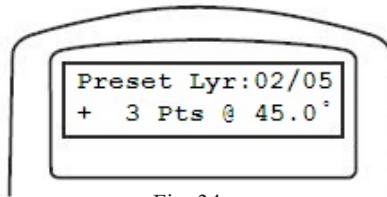

Fig. 34
2. The hand control will ask if you want to edit the preset layers. Press **1** to continue to the editor. The hand control will display the existing preset layers. The top line will show the number of the layers you are in, and how many total layers are being used. The second line shows the number of images to be taken in one full 360° rotation of the mount at the altitude angle displayed. In the example in **Fig. 34**, you are viewing layer 2 out of 5 total layers and the mount will take 3 images at an altitude angle of 45° above the home position. You can use the scroll keys to see each layer. When you are ready to make changes to the layers, press **ENTER**.